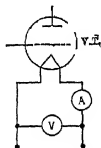

Fig. 15. Measuring the resistance of a vacuum-tube filament.
**Prob. 40-1.** In Fig. 15 the voltmeter ( $V$ ) indicates 5 volts and the ammeter ( $A$ ) 0.25 ampere. What is the resistance of the filament of the vacuum tube?